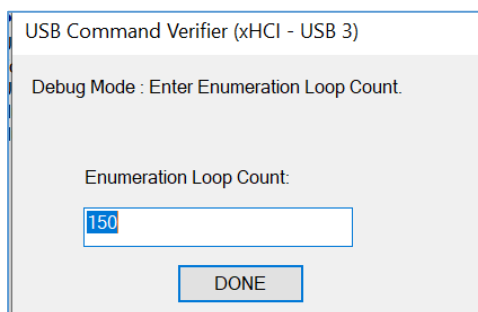

FIGURE 7.14: USER PROMPT TO ENTER DEBUG MODE ENUMERATION LOOP COUNT IN CV TOOL
3. In the next pop-up message (Figure 7.14 below), the user will need to enter the required enumeration loop count for Debug mode and select “DONE” [Note: 10 is the preferred count]. The user will also need to update the status in the GRL-USB-PD-C2-EPR application pop-up screen.